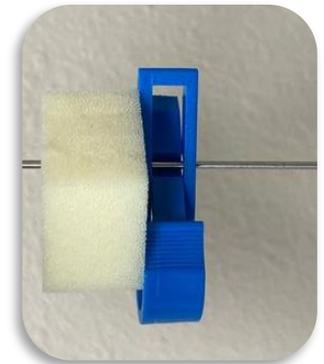

Figure 3: Sponge to be placed next to the skin, then clip placed to hold sponge against skin.
- **Pin tract infection** is inflammation and subsequent infection at the metal-skin interface. The signs and symptoms of infection around the pin or wire may require the administration of an antibiotic, pin/wire removal, or surgical debridement. To prevent pin tract infection, ensure the pins/wires are kept clean. Consult with your physician for specific cleaning instructions. Sponges and sponge clips are available for use through your physician to aid in keeping pins/wires clean. If sponges become detached from your frame or need to be replaced for any other reason, consult with your physician to get replacements. Sponges should be placed next to the skin around the pin/wire. Sponge clips should be clipped onto the pin/wire so that it holds the sponge against the skin (Figure 3).